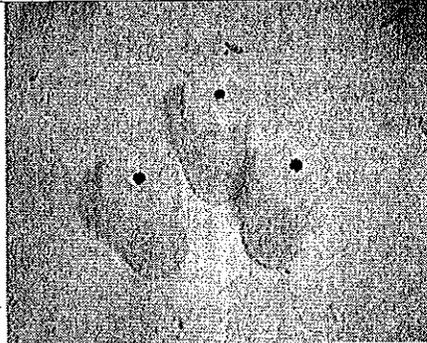

Figure 13: Drilled motor canisters (film cans)
2. Now drill a hole in the bottom of each film can (see Figure 13). The holes in the cans are where the motor shafts pass through the cans, and form the shaft seals, so it is **VERY IMPORTANT** that these holes are drilled extremely carefully. First, pick any plastic lumps off of the center of the can with your fingernail or a screwdriver. Then carefully and slowly drill the hole straight into the very **CENTER** of the can. Pull the drill straight out to avoid enlarging the hole.